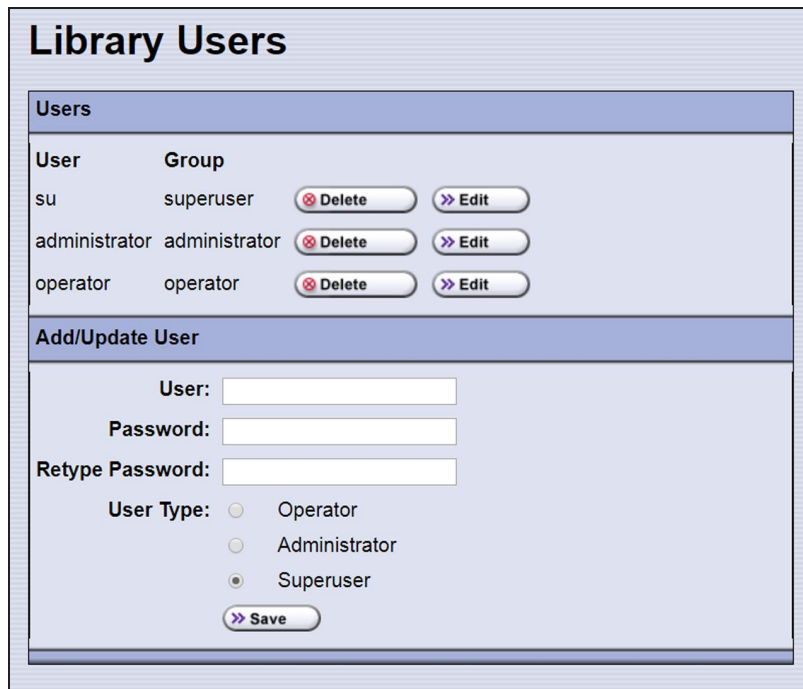

Figure 45 The Library Users screen.
2. From the toolbar menu, select **Security > Edit Users**. The Library Users screen displays (see Figure 45 on page 107), showing a list of library user names.